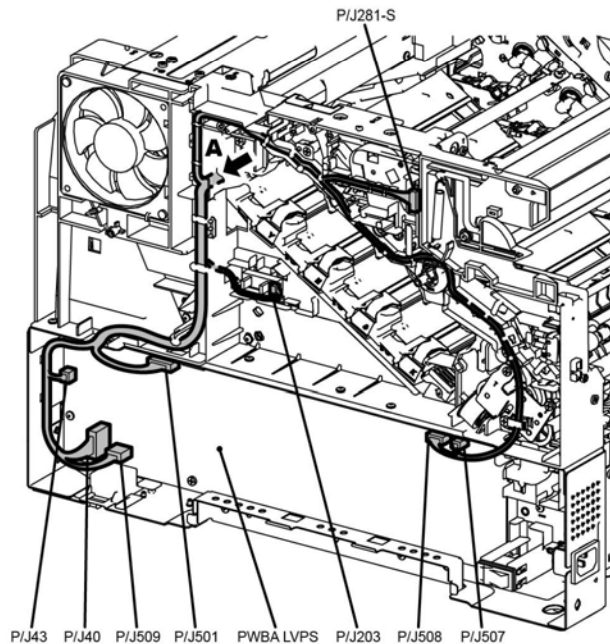

Figure 1 Top harness
1. Refer to Figure 1 to locate the right side of the top harness assembly.